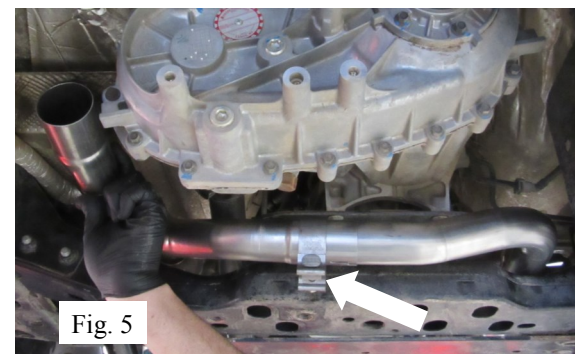

Fig. 5
4. Place a clamp over expanded end of **Y-Pipe Assembly** and insert ends into **L/H Front Pipe Assembly** and **Under Trans Pipe Assembly**. (See Fig. 5) **DO NOT TIGHTEN CLAMPS.**